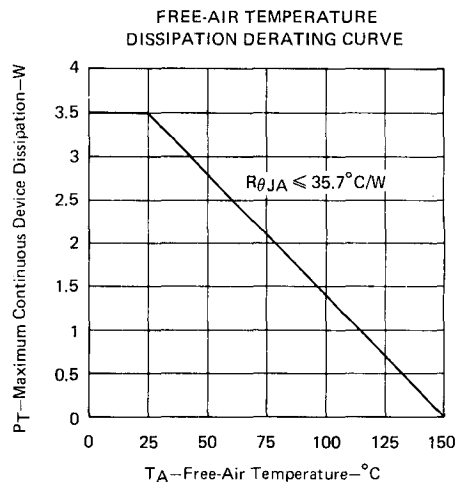

FIGURE 10
4. Derate linearly to 150°C free-air temperature at the rate of 28 mW/°C or refer to Dissipation Derating Curve, Figure 10.